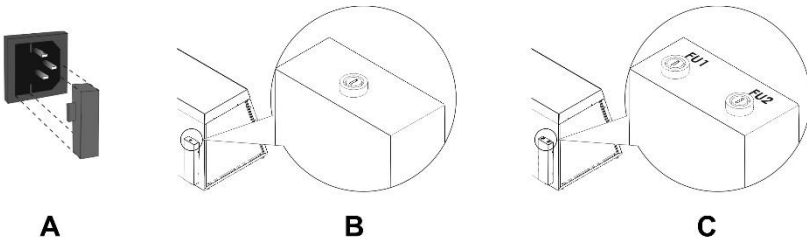

Fig. 4. Fuse replacement
- 7.3.1. Fuse for the control box. Disconnect the unit from electric circuit. Remove power cable from its socket on the rear side of the unit. Open the fuse holder by pulling out the holder (fig. 4/A, compact models) or by screwing off the holder lid marked FU2 (fig. 4/C, model UVT-S-AR). Check the fuse and replace if necessary, **M** 3.15 A (type **M** - time lag: **Medium**).
- 7.3.2. Fuse for the mains outlets (for models with built-in mains outlets). Disconnect the unit from electric circuit. Open the fuse holder by screwing off the holder lid marked FU1 (fig. 4/B or 4/C, FU1). Check the fuse and replace if necessary, **M** 5.0 A (type **M** - time lag: **Medium**).